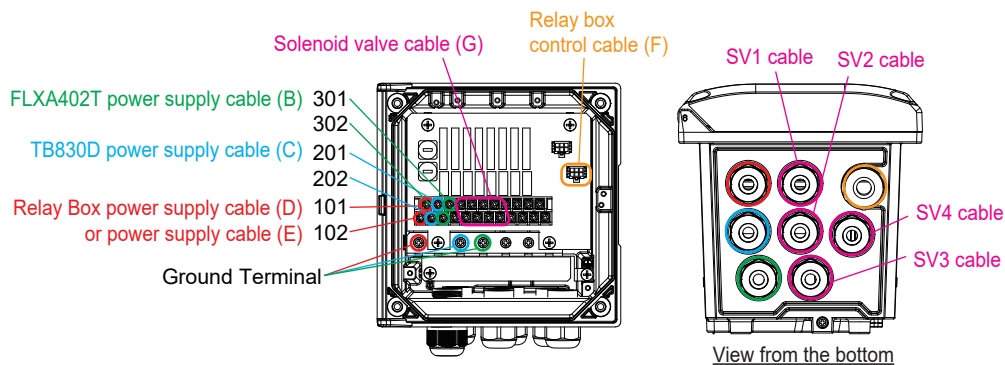

Figure 2.16 Wiring of Relay box (for-A5)
■ FLXA402T power supply cable (B)
Dedicated cables are included. Refer to Figure 2.14 and Figure 2.16 for wiring. The lengths of the terminal processes at both ends are different. Connect the longer side (approx. 80 mm) to TB830D side and the shorter side (approx. 50 mm) to FLXA402T side. Cables have no terminal names on them. Wire them by color. L:Black, N: White, G: Red. The tightening torque of M3 screws (L and N) is 0.6 N·m, and that for M4 screws (G) is 1.4 N·m.
■ TB830D power supply cable (C)
Dedicated cables are included. Refer to Figure 2.14, Figure 2.15, and Figure 2.16 for wiring. Cables have no terminal names on them. Wire them by color. L:Black, N: White, G: Red. M3 The tightening torque for screws (L and N) is 0.6 N·m, and that for M4 screws (G) is 1.4 N·m.
■ Relay Box power supply cable (D)
Dedicated cables are included. Refer to Figure 2.14 and Figure 2.16 for wiring. Cables have no terminal names on them. Wire them by color. L:Black, N: White, G: Red. M3 The tightening torque for screws (L and N) is 0.6 N·m, and that for M4 screws (G) is 1.4 N·m.
■ Power supply cable (E)
Dedicated cables are included. Connect to the specified connectors referring to Figure 2.14, Figure 2.15, and Figure 2.16.
Solenoid valve and its valve cabling must be provided by the customer. Refer to Table 2.2 and Table 2.3 for required specifications. Wire solenoid valve cabling referring to Figure 2.14 and Figure 2.16. Use a solenoid valve that matches the required power supply voltage.